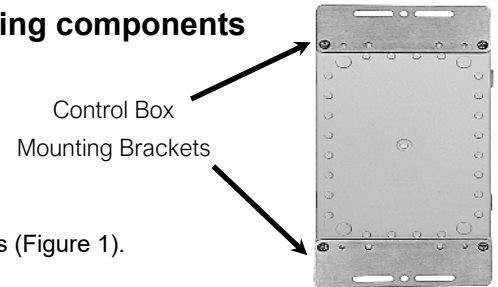

Figure 1
2. Attach the two Control Box Mounting Brackets to the back with the included screws (Figure 1).
<p>Installation Instructions</p> <ol style="list-style-type: none"> <li>1. FIG 1. Insert T-nuts into the frame on the long edges of the panel. 2 T-nuts are needed on the side closest to the bracket tilt and 1 on the single hole.</li> <li>2. With T-nuts inserted into the frame, place the bracket across the back of the panel as shown in FIG 2.</li> <li>3. FIG 3. Use the screws, washers and lock washers to fasten the bracket to the panel.</li> </ol>	<p>FIG 2</p>
<p>FIG 1</p> <p>             T-NUT X 4    LOCK WASHER X 4    SCREW X 4    WASHER X 4         </p>	<p>FIG 3</p> <p>             ← Screw →              ← Lock Washer →              ← Washer →         </p>
<p>Tilting Instructions</p> <ol style="list-style-type: none"> <li>1. To tilt the panel first remove the two small phillips head screws from either side of the bracket in Figure 1.</li> <li>2. Figure 2. Tilt the bracket to the desired angle. Most applications should be at 45 degrees from vertical.</li> <li>3. Figure 3. Replace the screws to lock the bracket in place.</li> </ol>
<p>Figure 1</p>	<p>Figure 2</p>